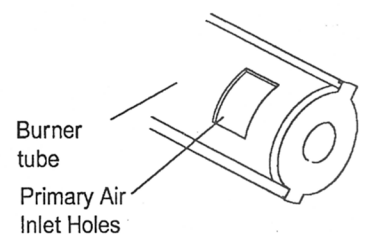

Figure 24 -Injector Holder on Outlet Burner Tube
2. Inspect burner, pilot and primary air inlet holes on injector holder for dust and dirt (see figure 24).